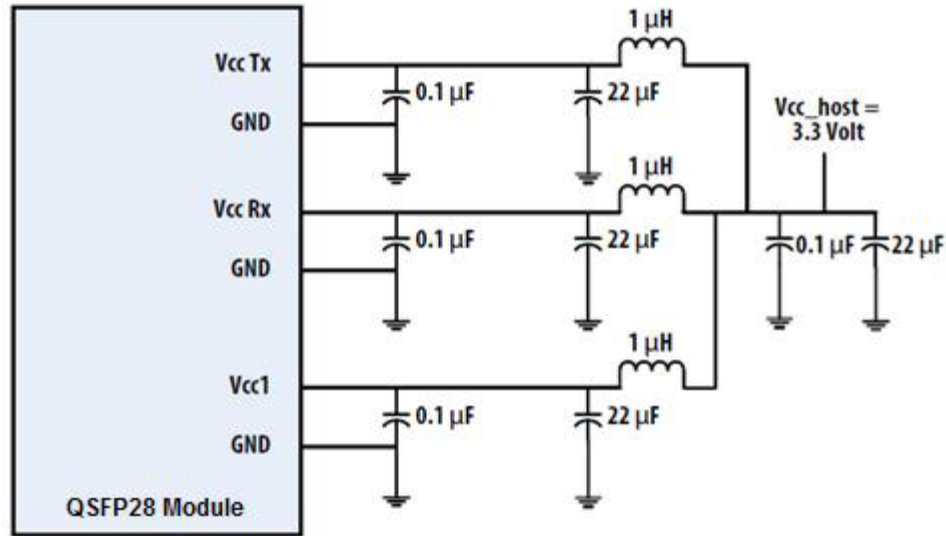

Figure 3. Recommended Power Supply Filter
2. VccRx, Vcc1 and VccTx are the receiver and transmitter power suppliers and shall be applied concurrently. Recommended host board power supply filtering is shown in Figure 3 below. Vcc Rx, Vcc1 and VccTx may be internally connected within the QSFP28 transceiver module in any combination. The connector pins are each rated for a maximum current of 1000mA.